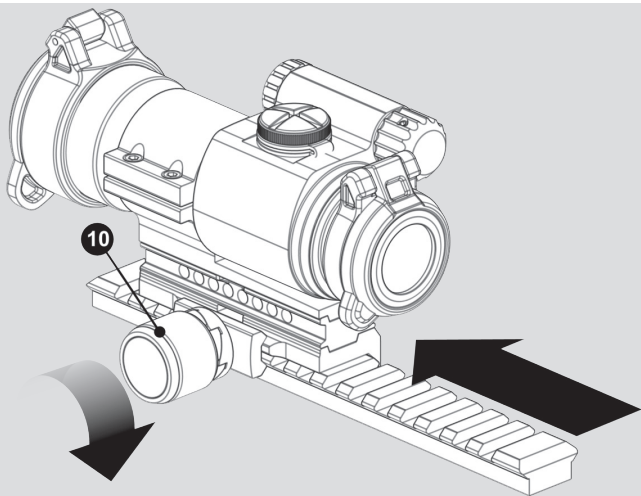

Fig. 2 Installing the sight to a Picatinny rail
- c Install battery cap (1) by turning clockwise until snug. Hand tighten only. Using tools could damage equipment.
- d Verify that the red dot is present by turning the rotary switch (13) clockwise.
- b Loosen the torque knob (10) by turning it counterclockwise.
- d Push the sight and mount forward (toward muzzle) (see Fig. 2) to ensure the recoil stop is in contact with the side of the groove and tighten the torque knob (10) clockwise until it snaps **twice**. This ensures that the mount is secured to the Picatinny rail.